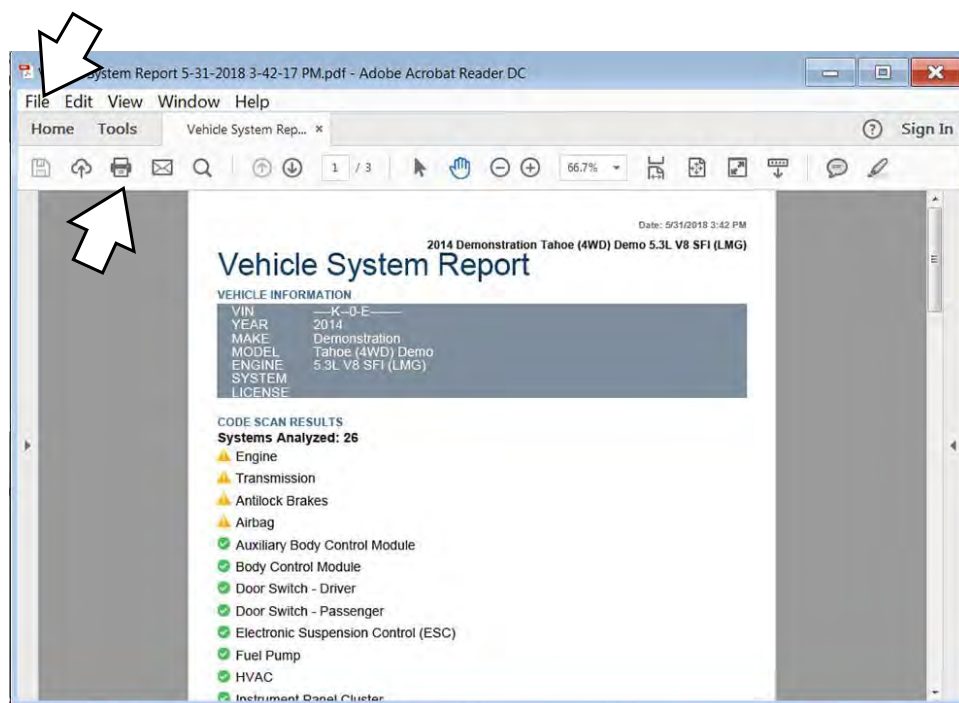

Figure 4-22
4. From the PDF viewer use the menu or toolbar print options to print the file (Figure 4-22).